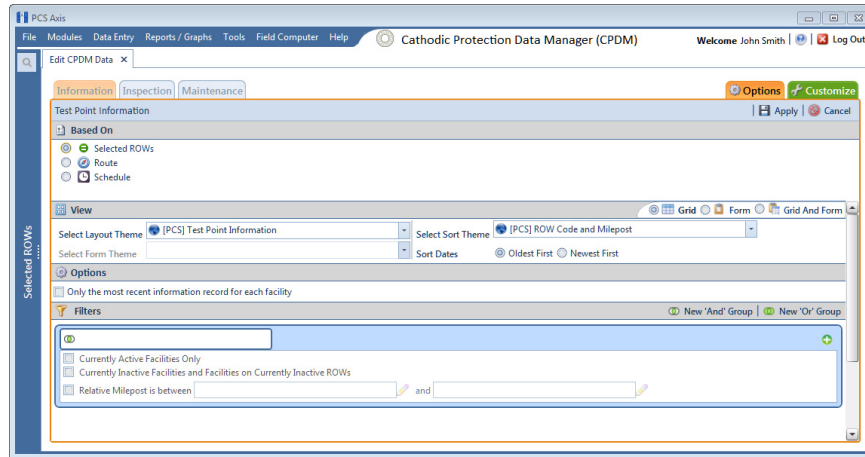

Figure 7-50. Options/Information Grid
- 3 Click the **Options** tab  to open the *Options* page (Figure 7-50).